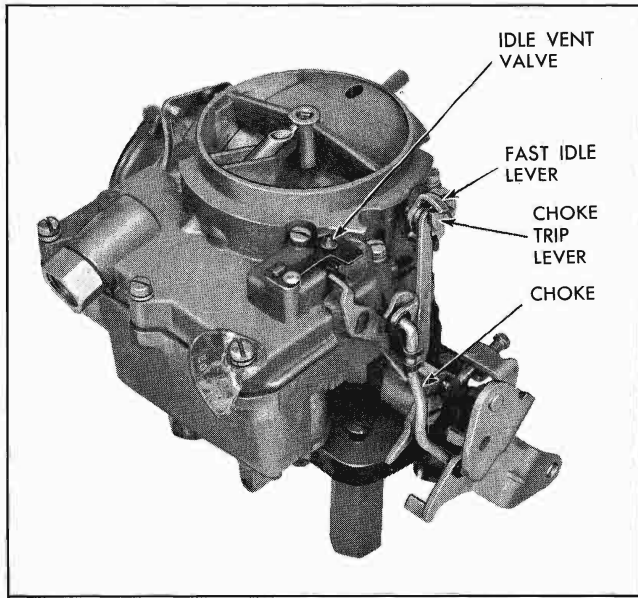

Fig. 6B-18 Rochester 2GC Carburetor
2. Disconnect the pump link (Fig. 6B-18) from the pump lever by removing spring clip. Remove lower end of pump rod from throttle lever by removing clip.